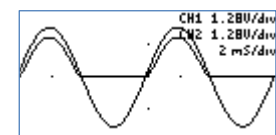

Figure 64: Removing the capacitor
- 6) If the capacitor is removed, the display should look like figure 64.